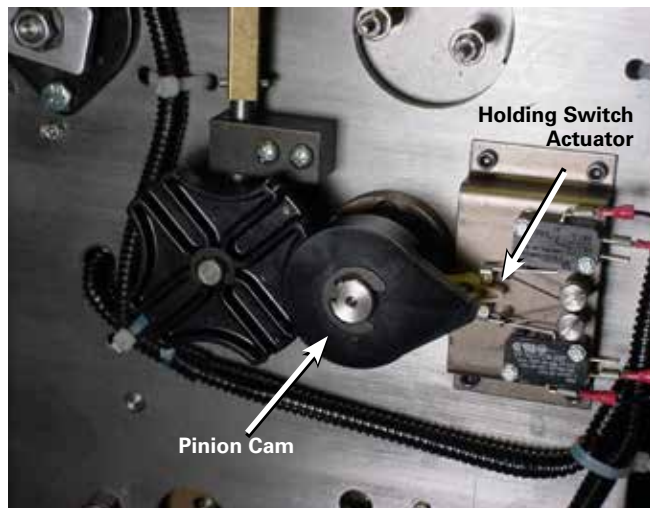

Figure 76. Neutral position for position indicator pinion cam and holding switch.
- C. The pinion cam is pointing to the right over the holding switch actuator. See Figure 76.